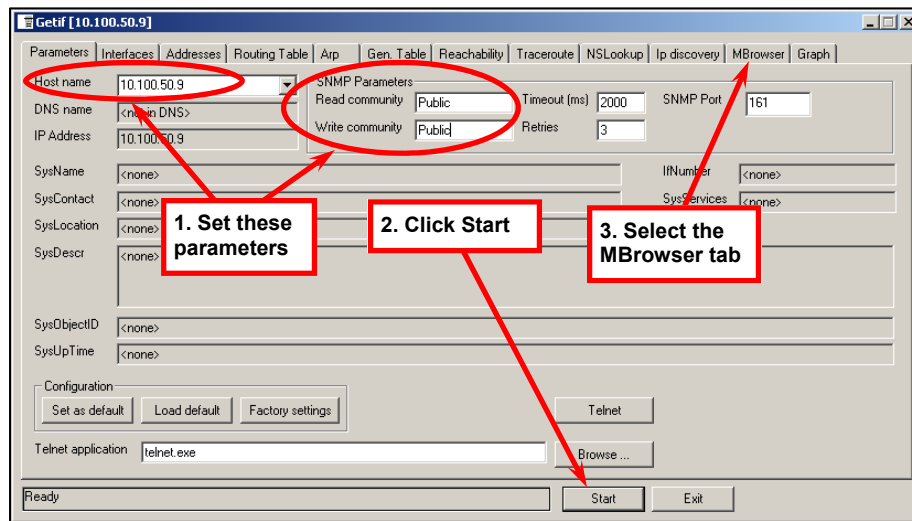

Figure 8-9: GetIF Application Parameters Tab
3. Select the unit IP address and community strings in the relevant text boxes on the Parameters tab (**Figure 8-9**, Item 1) and click **Start** (**Figure 8-9**, Item 2).
4. Select the MIBBrowser tab (**Figure 8-9**, Item 3).